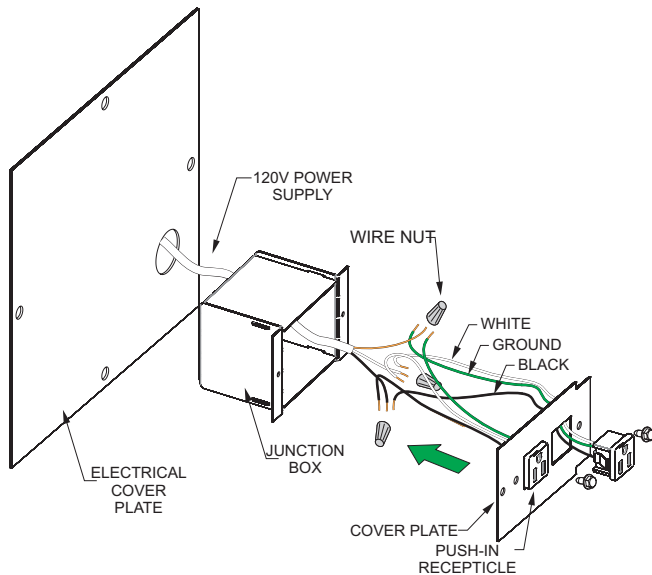

Figure 8
4. Remove the junction box cover. Run 14/2 NM-B with ground or 12/2 NM-B with ground wire through the electrical access panel into the Junction box. Secure wiring with the wire connector as required and install the two receptacles as shown in Figure 8. Attach the black wires with a wire nut, and the white wires with a wire nut. Secure the incoming ground wire and green receptacle ground wires under the green ground screw provided in the junction box. Re-install the Junction box cover.